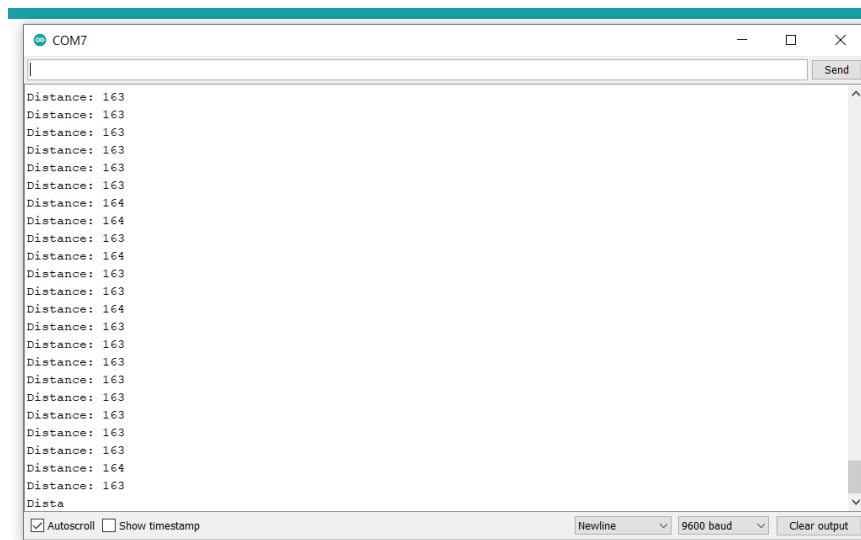

Figure 04: Arduino serial monitor
3. Open the Serial Monitor and check the output voltage values as figure 04.